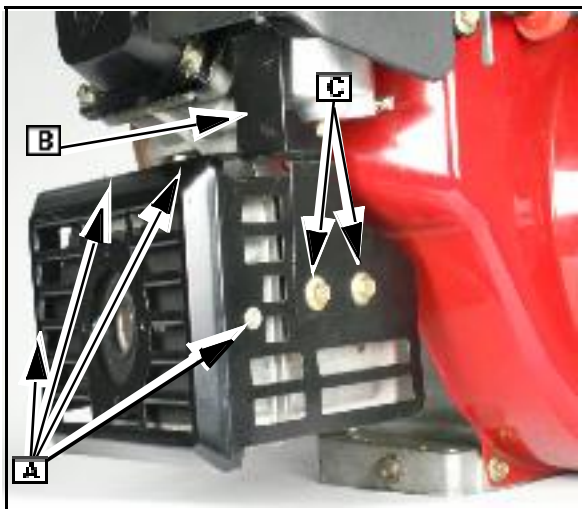

Fig. 19
8. Secure muffler guard ([A] Fig. 19) to its bracket with four screws and torque to listed values.
9. Install carburetor heat shield ([B] Fig. 19) with two mounting screws (C) and torque to listed values